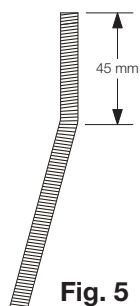

Fig. 5
a) if the rack is pre-installed at a measurement greater than that indicated in Figure 1, or in the case of possible water stagnation, the foundation plate may have to be raised. In this case, bend the bars at a height of about 45 mm as indicated in Figure 5.